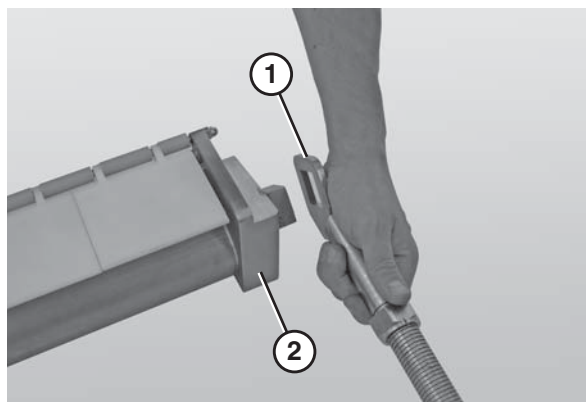

Figure 65
3. Slide the nose bar shafts (Figure 65, item 1) off of the nose bar weldment (Figure 65, item 2).